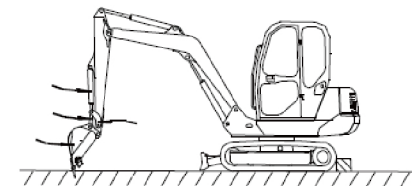

Fig. 1
1) First remove the bucket, bucket cylinder, connecting rod, rocker or other accessories (as shown by the arrow in Fig. 1);